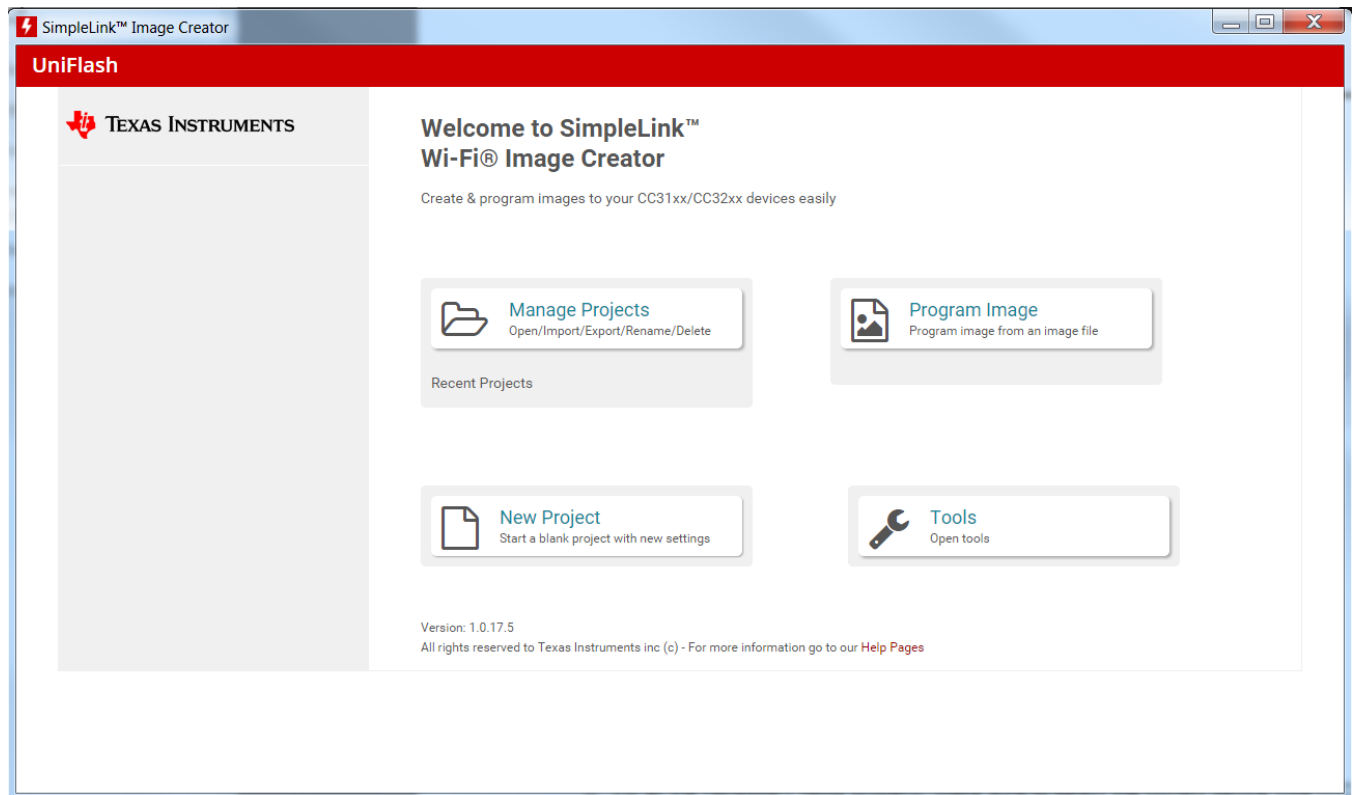

Figure 3-7. New Project
4. Click on New Project, as shown in Figure 3-7.